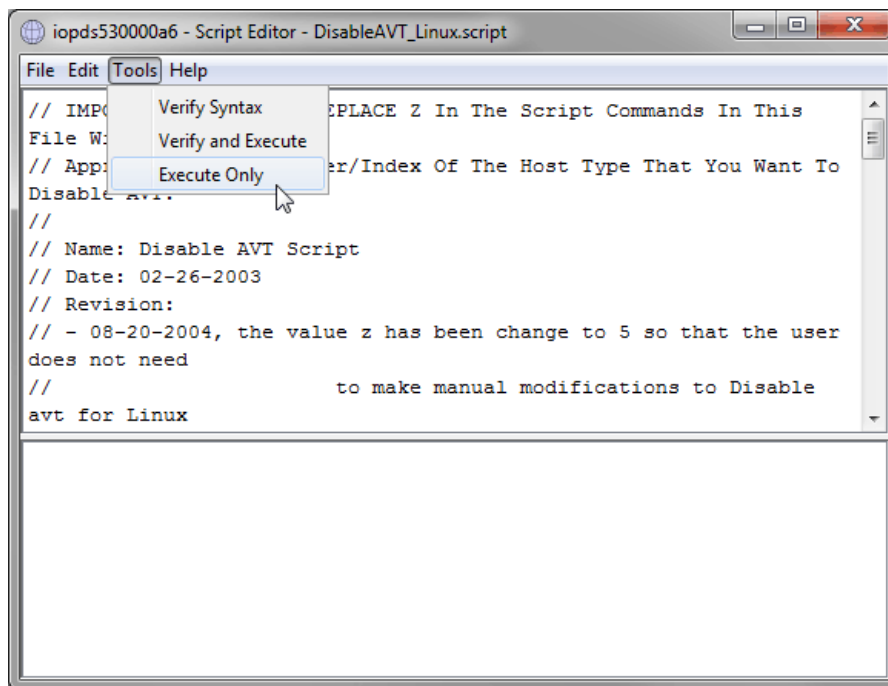

Figure 2-78 Selection of script execution
4. After the script is loaded, to execute the script, click **Tools** → **Execute Only**, as shown in Figure 2-78.